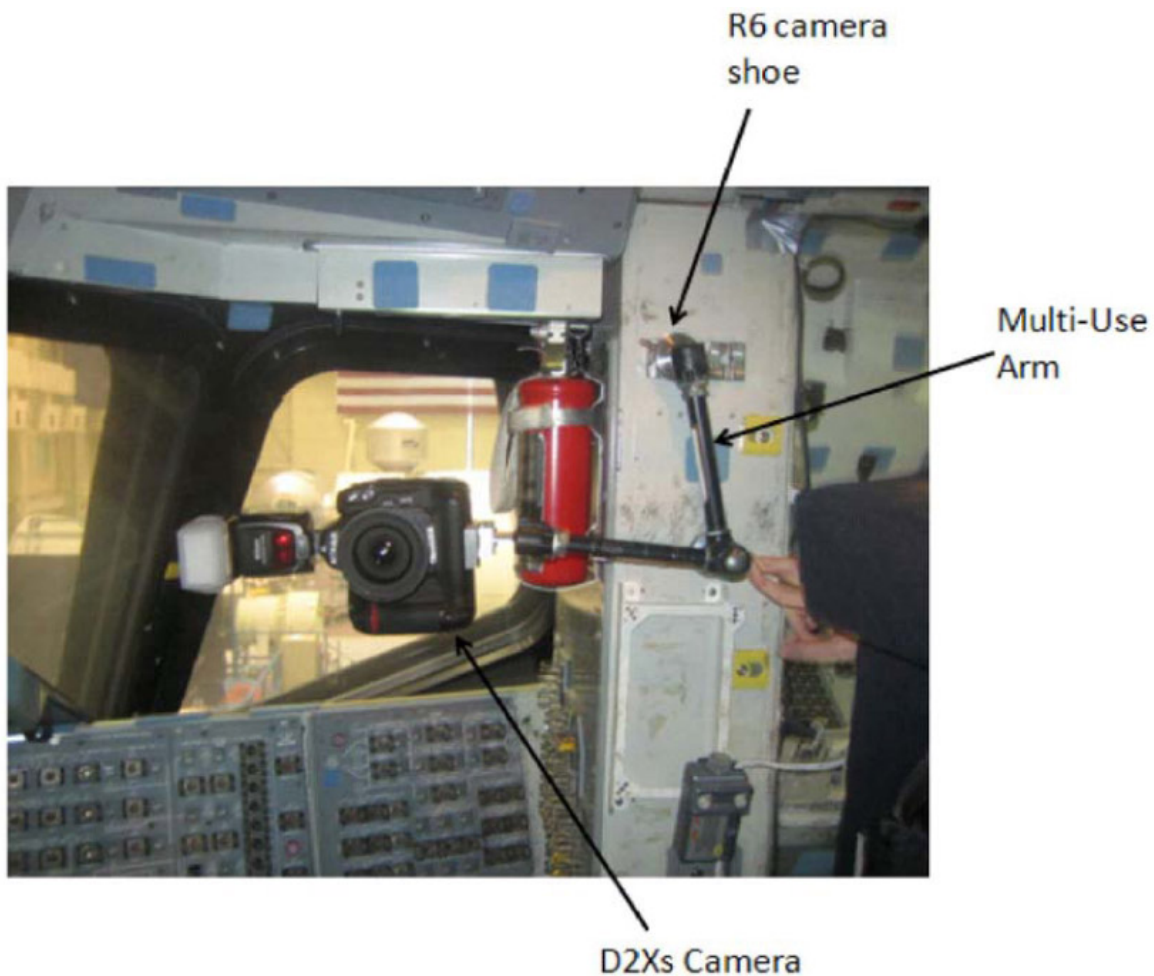

Figure 6. D2Xs Camera Positioned on R6 Camera Shoe.
- 4.5 Position D2Xs Camera on Multi-Use Arm in a vertical orientation (SB-800 Flash towards forward) and install Multi-Use Arm to R6 camera shoe (forward towards window as seen in Figure 6).
Mount D2Xs Camera on Multi-Use Arm such that D2Xs Camera is orthogonal to CDR seat. Refer to Figure 6.